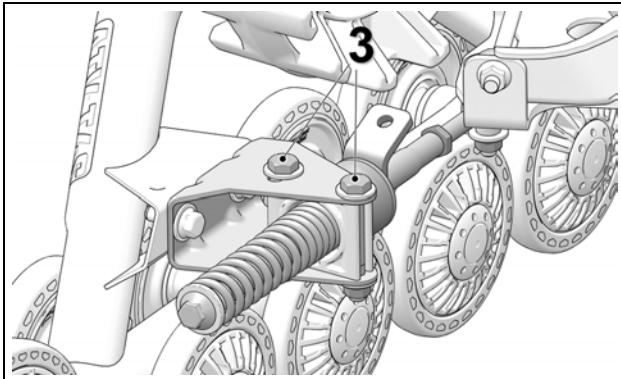

Figure 18
- Re-tighten anti-rotation bracket bolts (3) to 50 N•m [37 lb-ft] of torque. See Figure 18.